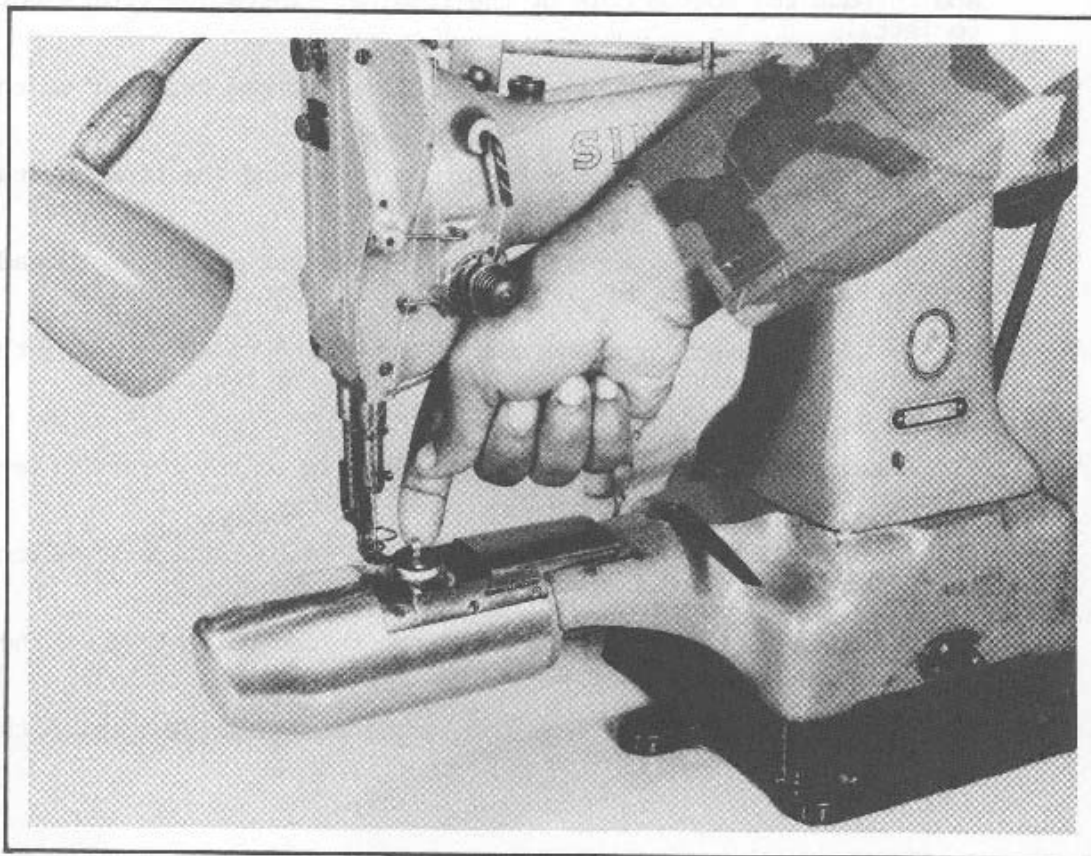

Figure 3-96
- (1) Position the needle bar at its highest point by turning the balance wheel toward you.
- (2) Remove the needle.
- (3) Replace the needle.
- (d) Tighten the needle clamp screw. (See Figure 3-96)